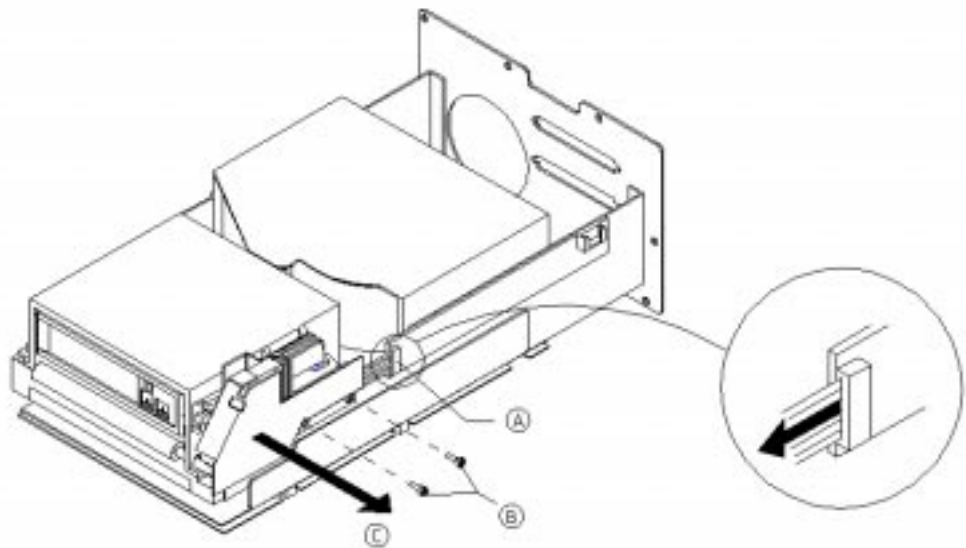

FIGURE 5-5 Drive Motor Assembly
8. Remove the drive handle motor assembly (on the right side of the drive). See FIGURE 5-5.